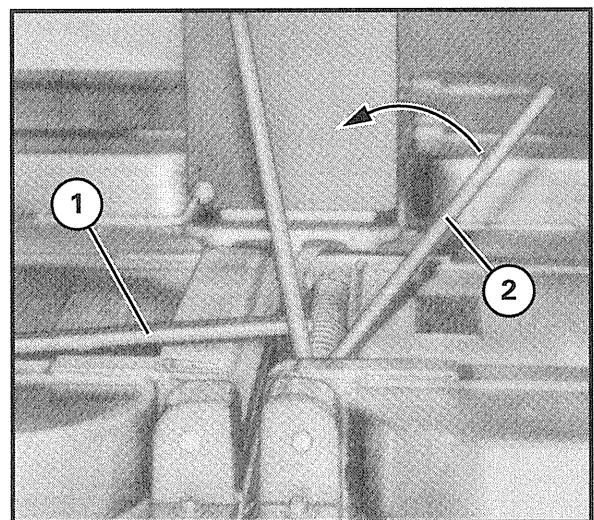

Fig. 122
- Turn the tension bar (arrow in Fig. 122) and hold it until the bolt (123/4) can be pulled out of the tension ring.